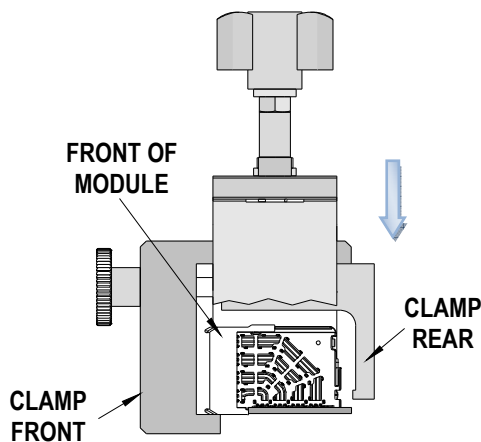

Figure 5
3. Position the extractor tool over the outside walls of the Daughtercard module. See figure 5.